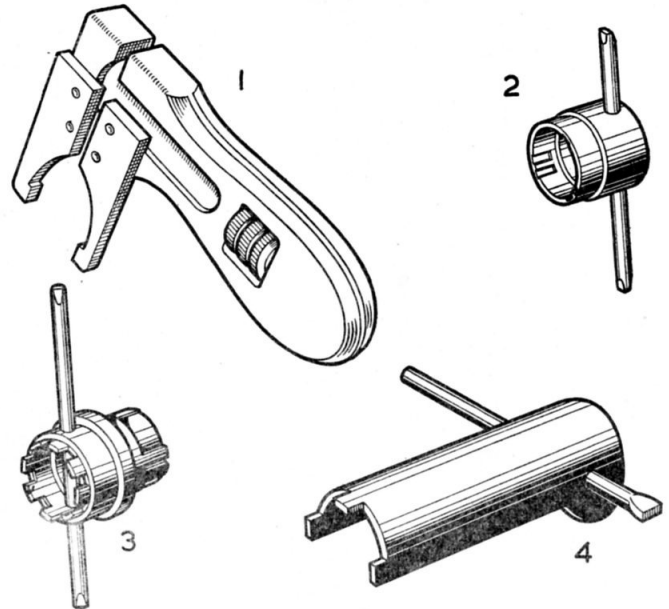

Fig. 7. Tools required with Mk. 4 plugs and sockets
11. A set of tools, illustrated in fig. 7, is required for assembling and mounting Mk. 4 plugs and sockets. These tools, with the exception of the adjustable spanner, are in three sizes, large, medium, and small. With free units, the female body holder provides a hand grip while tightening the nuts with the adjustable spanner (fig. 8). With fixed units, the male body holder must be used, the locking ring being tightened with the special Mk. 4 spanner with tommy bar (fig. 9).